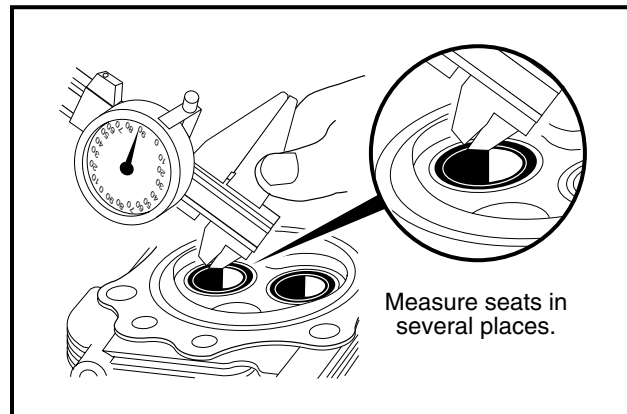

Figure 18-22 Resurfacing Valve Seat
2. Recondition the valve seats with the valve seat cutters (45° x 35 mm exhaust seat, 30° x 35 mm intake seat) and lap the valves (**Figure 18-22, Page 18-12**).
- 2.4. Resurface the valve seat with a 45° (exhaust port) or a 30° (intake port) cutter (1) (CCI P/N 1016554), removing only enough material to produce a smooth and concentric seat (**Figure 18-22, Page 18-12**). **See following CAUTION.**
- 2.5. Use a 60° x 35 mm seat cutter (1) to narrow the seat to standard width (**Figure 18-22, Page 18-12**). **See following CAUTION.**